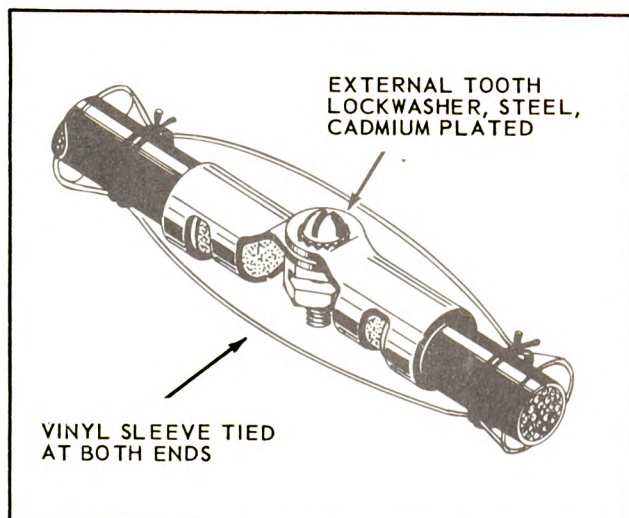

Figure 6-16. Connecting Thermocouple Splices
6-32. CONNECTING THERMOCOUPLE SPLICES. See Figure 6-16. Connect thermocouple splices as follows:
- Do not splice thermocouple leads except where specifically indicated and then only with approved splices such as shown in Figure 6-16.